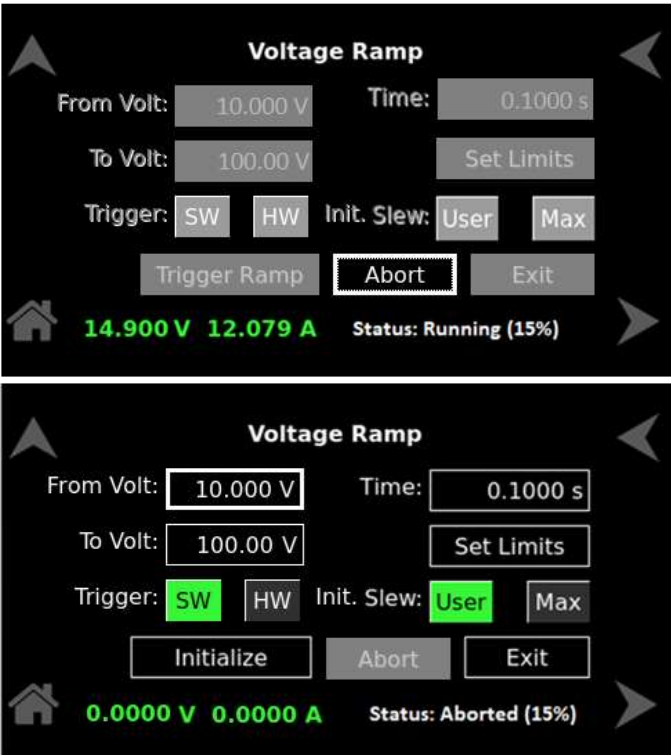

Figure 10-66. Abort
**Abort** User can abort the process at any stage of the ramp execution. The progress of the operation is displayed in the status on the right side of the screen. Refer to Figure 10-66.